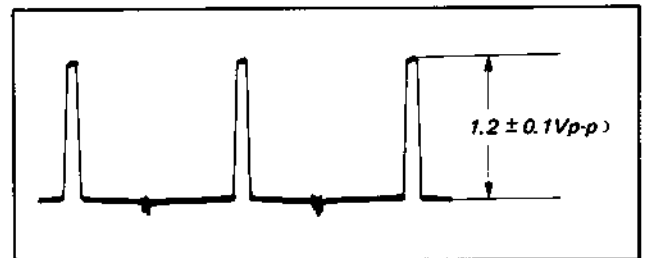

Fig. 2-6
- 2) Turn RV704 counterclockwise on the printed face and adjust the peak-to-peak value of the waveform shown in Fig. 2-6 to  $1.2 \pm 0.1Vp-p$ .